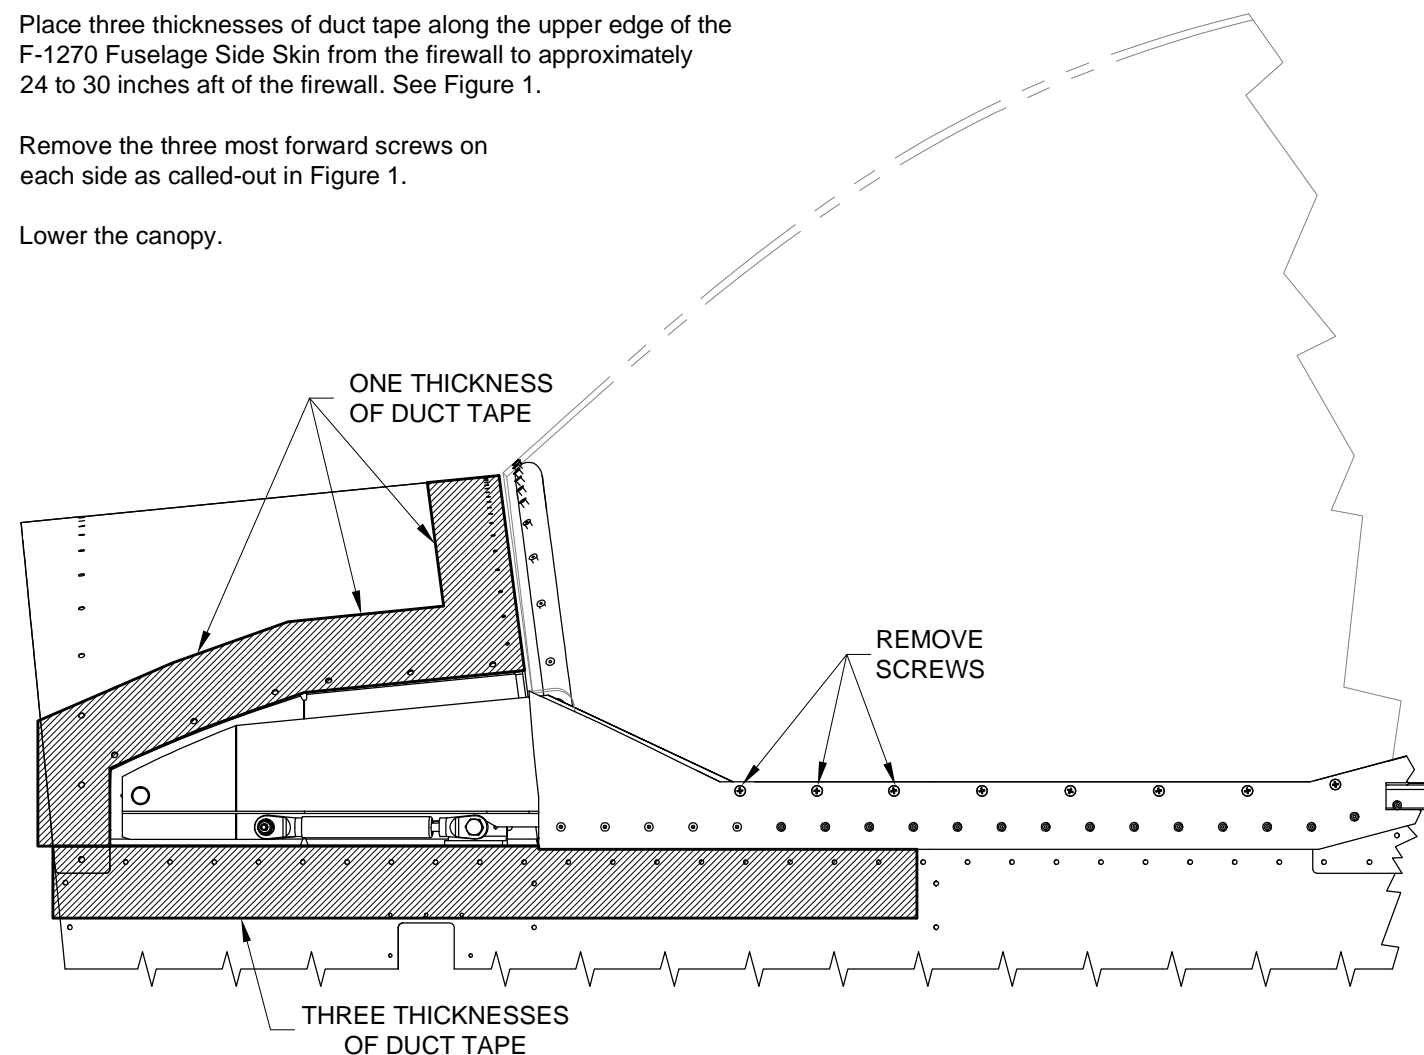

FIGURE 1:
Place three thicknesses of duct tape along the upper edge of the F-1270 Fuselage Side Skin from the firewall to approximately 24 to 30 inches aft of the firewall. See Figure 1.
Remove the three most forward screws on each side as called-out in Figure 1.
Step 2: Place one thickness of duct tape to the edges of the F-1240 Upper Forward Fuselage Skin all the way around as shown in Figure 1. Mask-off the remaining area of the upper forward fuselage skin using masking tape and newsprint or butcher paper.